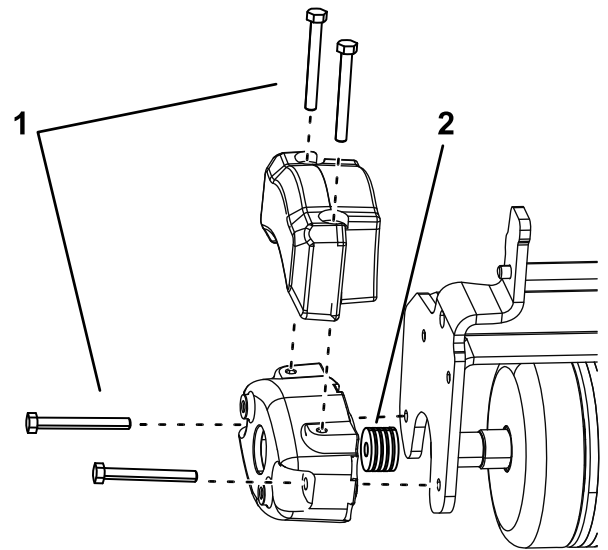

Figure 5
2. Install 2 bolts (5/16-18 x 2-3/4 inch) as shown in Figure 5.
3. Install 4 washers (1/8 inch) per bolt between the counterweight and the Tri-Roller side plate (Figure 5).